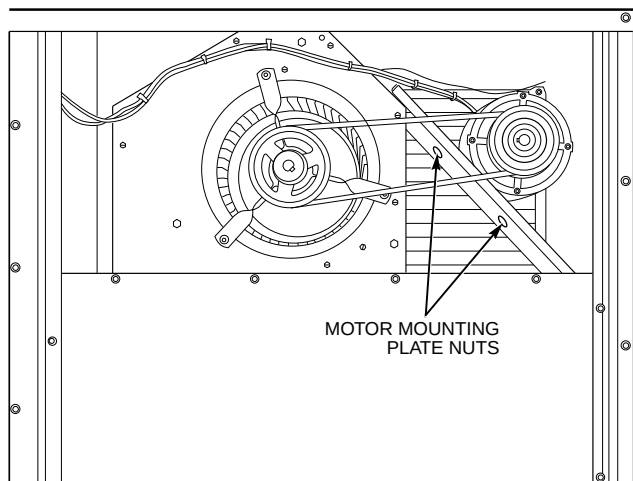

Fig. 27 — Typical Belt-Drive Motor Mounting for Size 008
2. Loosen belt by loosening fan motor mounting nuts. See Fig. 27 and 28.
2. *Size 008* — Slide motor mounting plate away from fan scroll for proper belt tension ($\frac{1}{2}$ -in. deflection with one finger) and tighten mounting nuts (see Fig. 27).